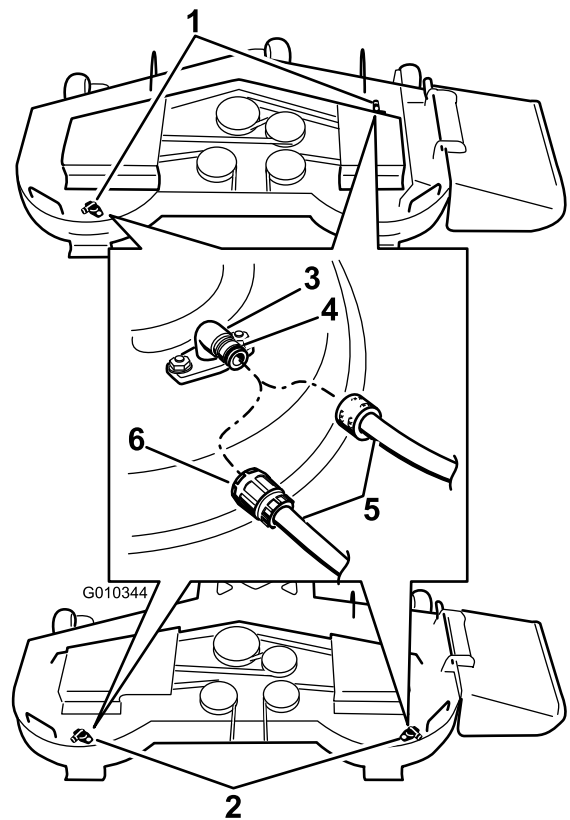

Figure 76
3. Attach the hose coupling to the end of the mower washout fitting, and turn the water on high (Figure 76).